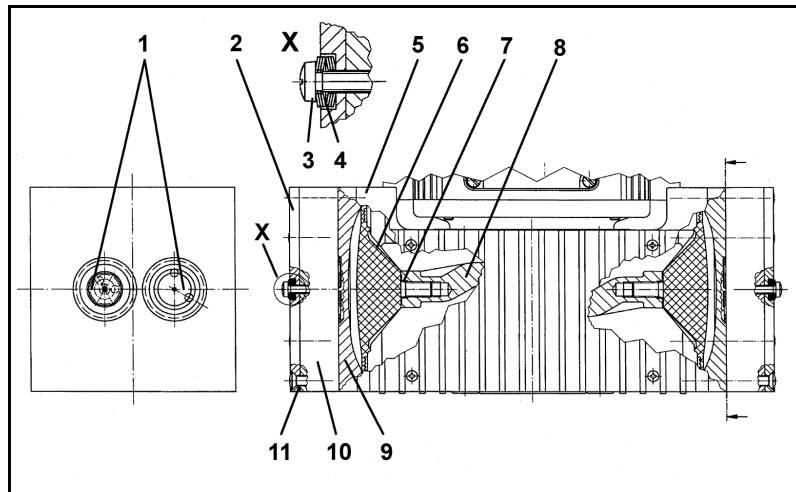

Fig. 11: Cross section of pump heads for pump N 860.3 FT.40.18 (symmetric)
3. At both pump heads make a mark (M) on the top plate (fig. 11/2), head plate (10), intermediate plate (9), and housing (5) with a felt-tip pen. This is to ensure that the parts will be reassembled correctly at a later stage.
4. Undo the eight screws (11).
5. Lift the pump heads off the housing (5).
i The concave side of the first three disc springs must point away from the screw head, the next three towards it (see fig. 11, detail X).